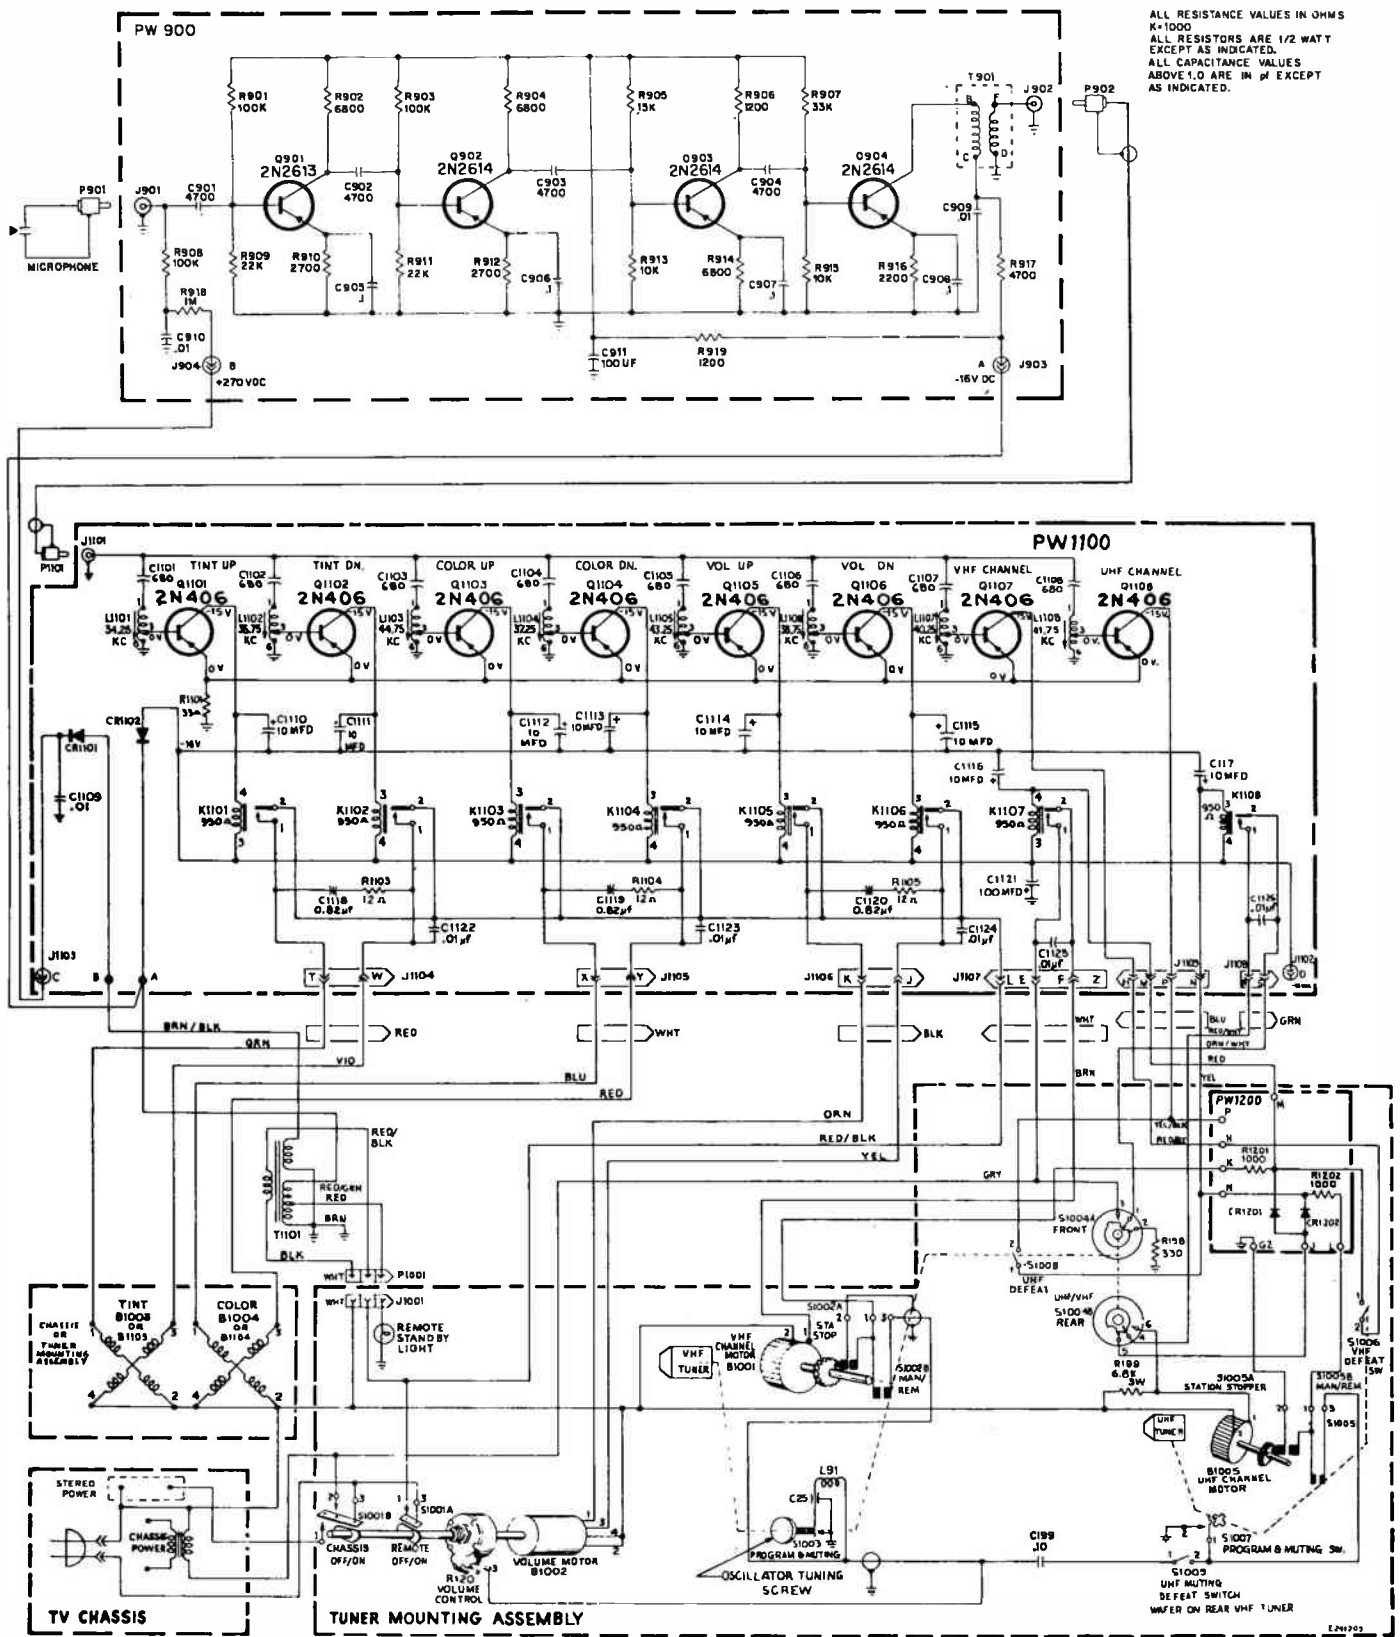

Fig. 57. An eight-channel remote-control receiver.
An eight-channel remote receiver (to be used with the eight-channel transmitter previously described) is shown in Fig. 57. The pickup device is a microphone, usually a capacitor-type microphone. The signal from
- (ax) What type of resonant circuits are used to select the signal in the receiver in Fig. 57?